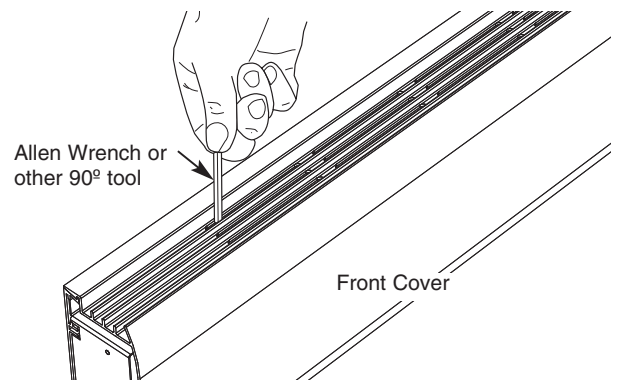

Fig. 7
2. To clean interior of heater will require the removal of the front cover. To remove the front cover, disengage the top rear snap-lock first. Use an “L” shaped tool, such as an Allen Wrench, to lift up under the webs between the back row of slots (See Fig. 7). Start at either end and lift up on the front cover until the tension in the cover pulls the cabinet apart. Continue moving along the length of the heater until the cover comes off.